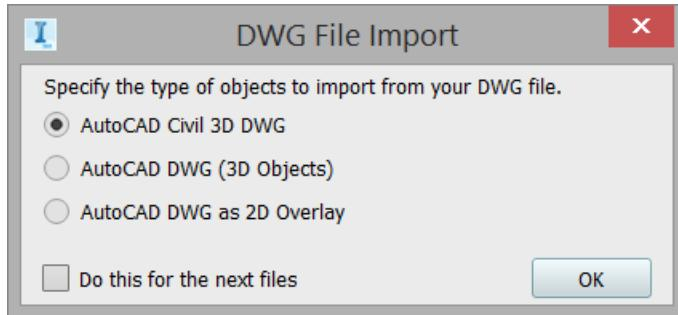

Figure 24
4. In the DWG File Import dialog box, select AutoCAD Civil 3D DWG to bring in the AEC objects, then remove the check from the option to "Do this for the next files", as shown in Figure 24. Click **OK**.